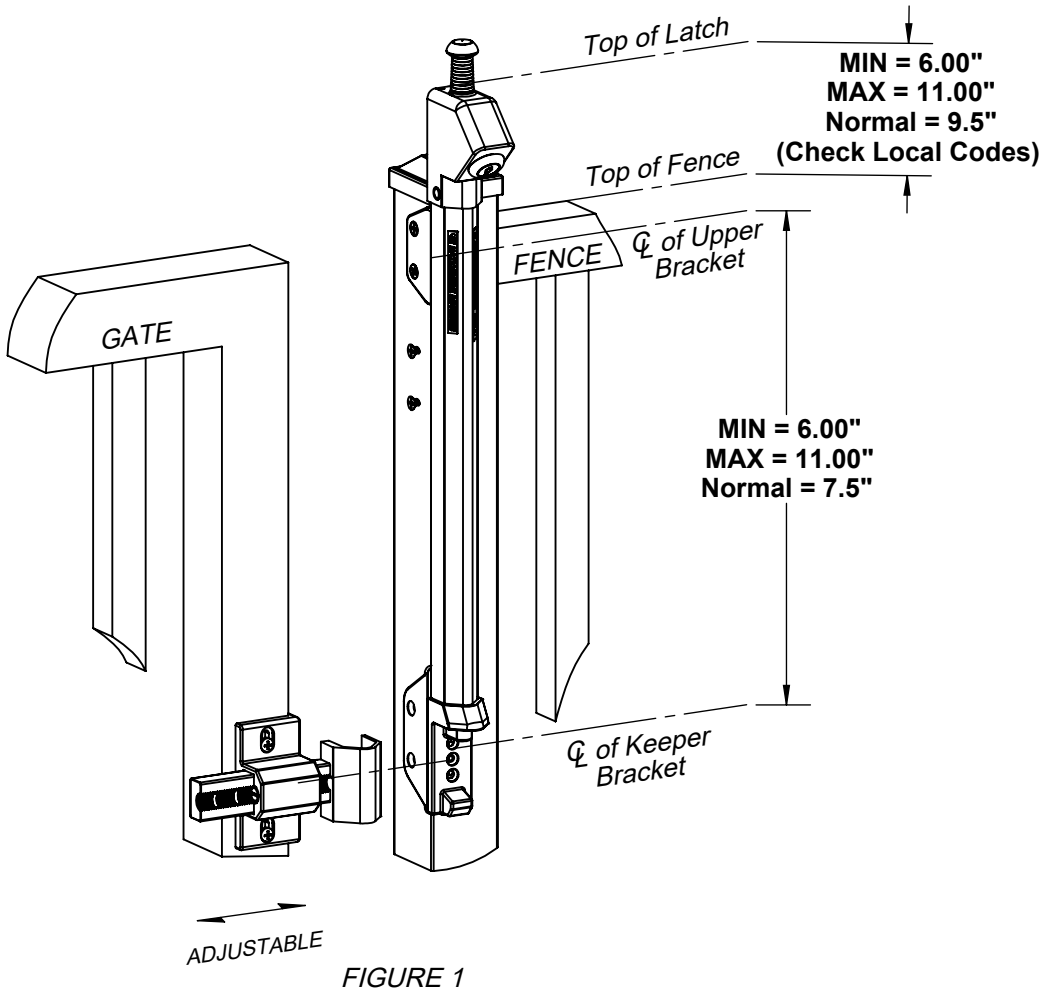

FIGURE 1
1) Align the rear groove in the Main Latch Body with the tab in the Upper Bracket, and slide the latch into position. Using a measuring device, locate the top of the latch at the proper height (Figure 1). NOTE: Refer to all local building codes.